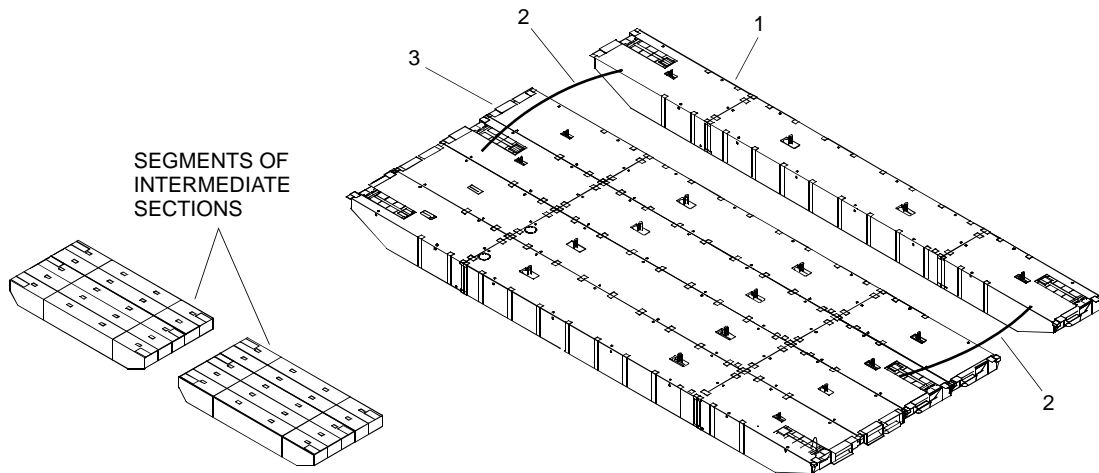

Figure 4. Segment Disassembly
1. Secure intermediate section (figure 4, item 1) to be separated to neighboring section (figure 4, item 3) using rope/lines (figure 4, item 2), flush turn tubes and deck cleats.